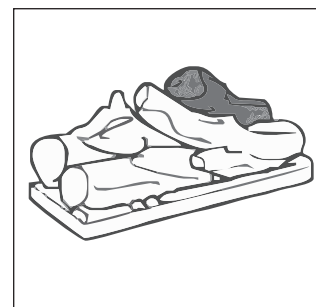

FIG 16
d) Place log #4 on single right back pin, ensure left side of log rests on depression in #3 log. Refer **FIG 16**.